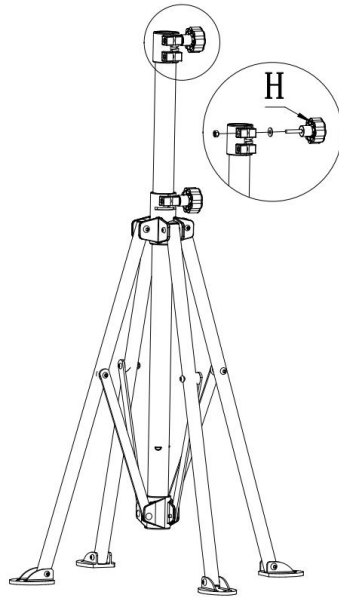

Fig. 2
1. Set up the Main Supporting Stand of the bicycle assembly stand by sliding the coupling (1) on the Main Supporting Stand (A) all the way down.
2. Unfold the feet (2) on the tripod legs down and ensure the product is placed on a solid and even surface.
3. Install the knob(H) to the position as show in Fig2,